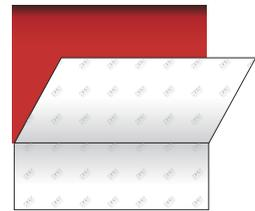

Figure 06
- › Remove the top hinge and continue removing the liner, depending on the surface structure (cf. paragraphs below). (FIG. 06)